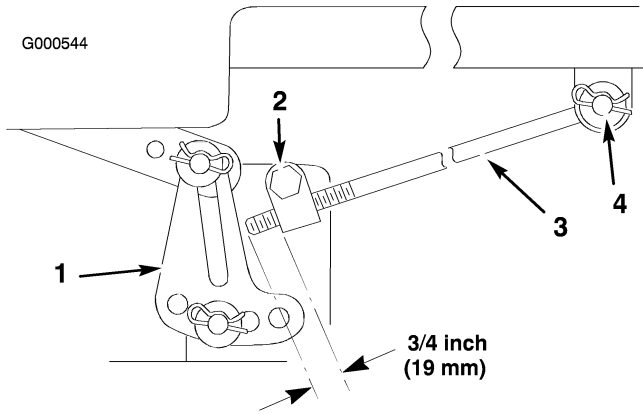

Figure 46
5. Measure the length of the rod extending out of the adjusting block on the sides of the chassis (Figure 46).
6. If the rod length is **not** a 3/4 inch (19 mm), remove the hairpin cotter and washer from the end of the adjusting rod (Figure 46) and turn the rod until the 3/4 inch (19 mm) dimension is obtained.